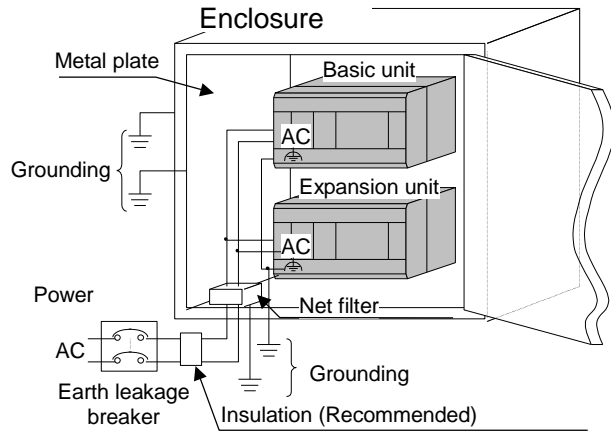

Figure 1 Power wiring example
- The basic and expansion unit should be wired to a common power source and powered up together as shown in Figure1.